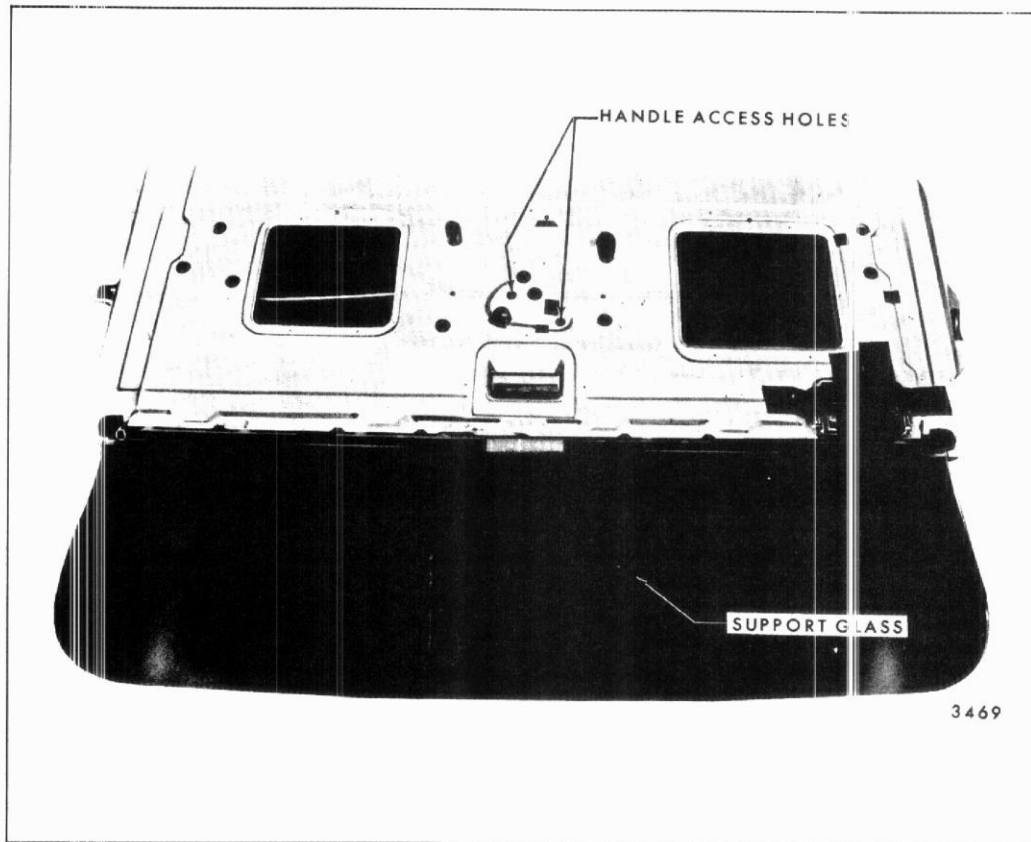

Fig. 9-10-Tail Gate Window Outside Handle Removal
3. Position tail gate window so that outside handle (manual) attaching nuts are accessible through gate inner panel and window regulator access holes (Fig. 9-10).